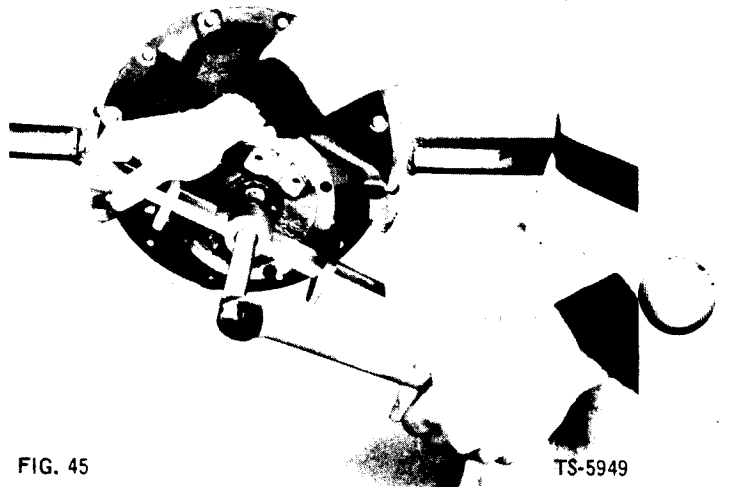

FIG. 45
7. Remove pinion shaft nut and remove companion flange from pinion shaft with suitable puller (Fig. 45).